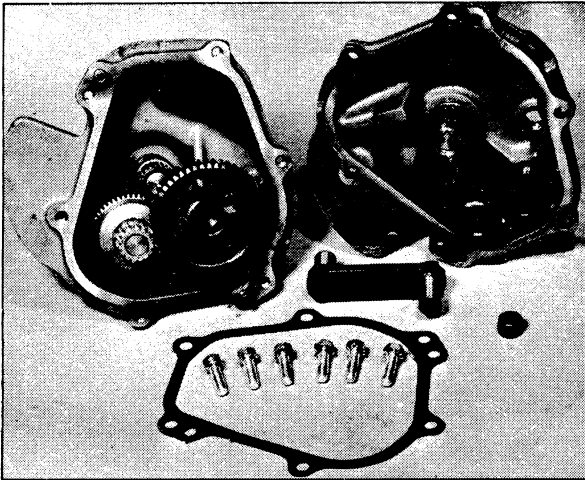

Figure 109 — Transmission Housing Separated
2. Remove six screws and separate the housings, *Figure 109*.